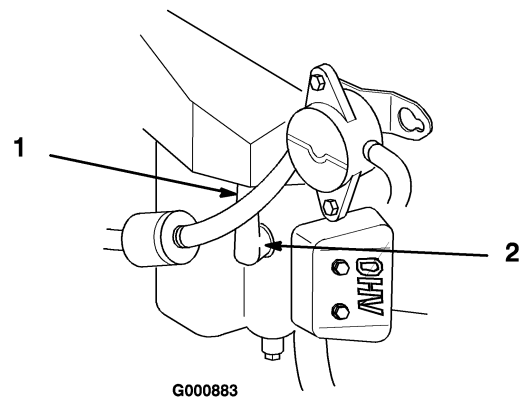

Figure 30
3. Pull the wire(s) off of the spark plug(s) (Figure 30). Clean around the spark plug(s) to prevent dirt from falling into the engine and potentially causing damage.
3. Push the wire(s) onto the spark plug(s) (Figure 30).